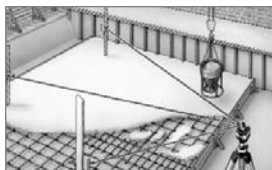

Bild 2
- A crank tripod (Art. No. 080.30) facilitates exact adjustment of the laser to a measured height (see Fig. 2).